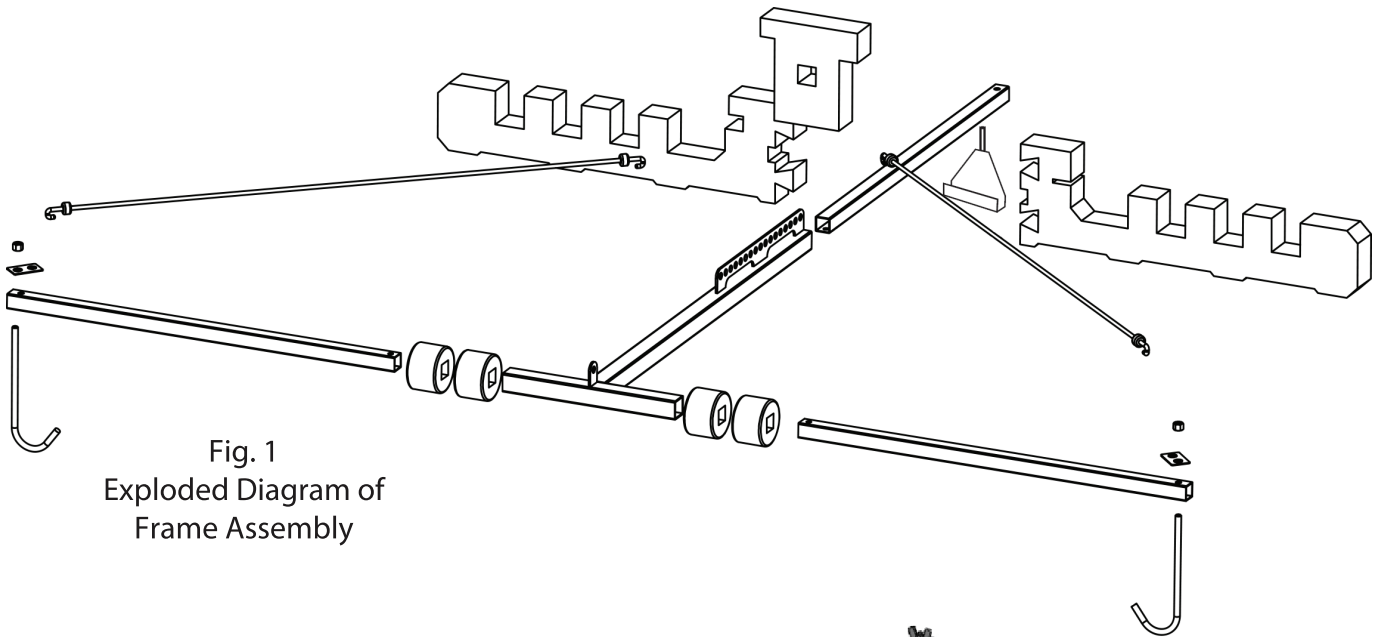

Fig. 1
- C. Slide the JL Foam Square Support (HAT-134) on the T-Shaped bar (HAT-100) over the lifting blade. There is a slit that allows you to do this. Pay close attention to the direction of the JL Foam Square (HAT-134) in Fig. 1, and orient it likewise.